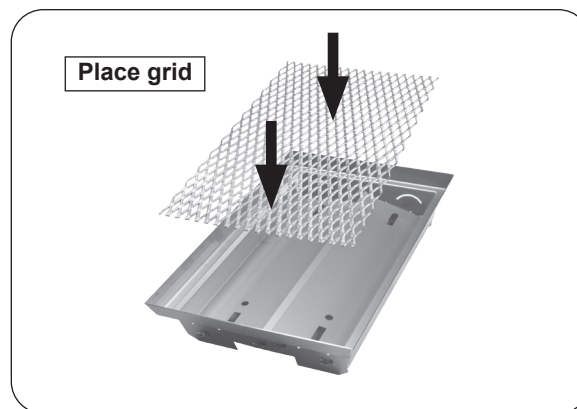

Fig. 43-2 Place grid inside basket
1. Place grid inside the basket frame (see Fig. 43-2).